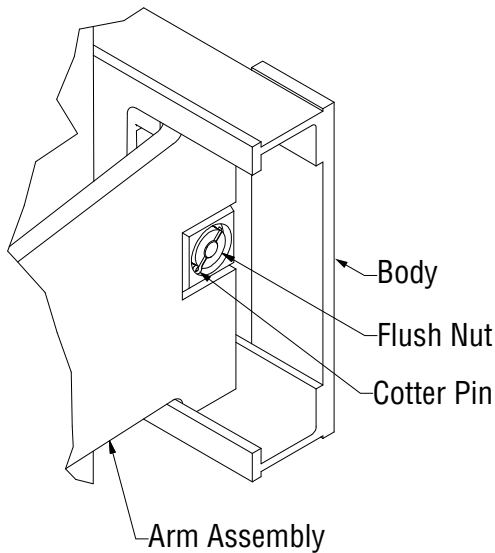

Figure 4-2, Arm Removal
1. Retract the arm fully closed. Remove the cotter pin retaining the flush nut. Remove the flush nut. (Figure 4-2)